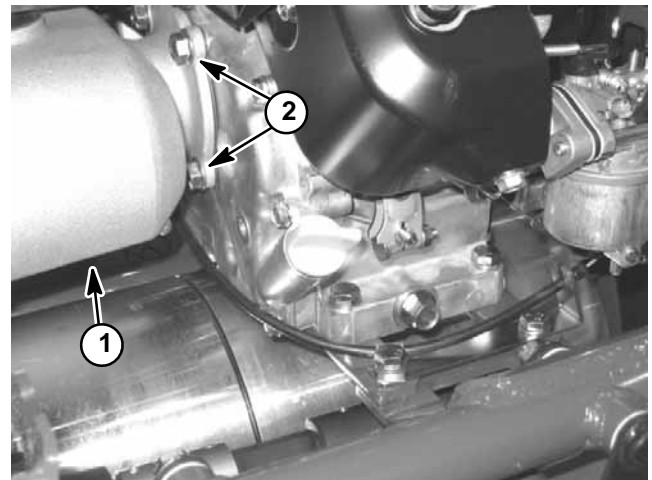

Figure 20
9. Loosen and remove four (4) flange nuts that secure gearbox to engine (Fig. 20).
2. Place new flange gasket on four (4) set screws installed in engine mounting flange.
6. Rotate engine crankshaft slowly with recoil starter to align crankshaft gear with gearbox input gear. Align gearbox flange onto set screws. Install and tighten four (4) flange nuts to secure gearbox to engine (Fig 20).